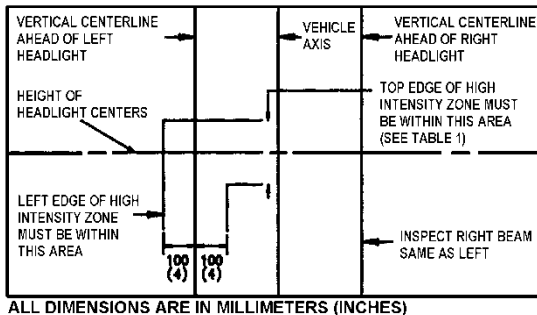

FIGURE 106: AIM INSPECTION LIMITS FOR LOWER-BEAM HEADLAMPS
- The inspection limits for high-beam headlamps shall be with the center of the high-intensity zone from 10 cm (4 in) up to 10 cm (4 in) down; and, from 10 cm (4 in) left to 10 cm (4 in) right on a screen at 7.6 m (25 ft) (Figure 106).